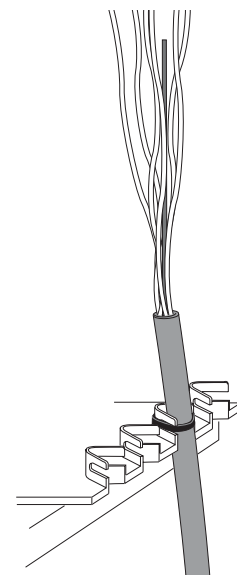

Fig. 4
6. Attach cable end to the FOSC work stand using a tie wrap as shown. (Figure 4)
5. Attach the cable to the FOSC work stand with a tie wrap. (Figure 4)
5. Attach the cable to the FOSC work stand with a tie wrap. (See Figure 4)